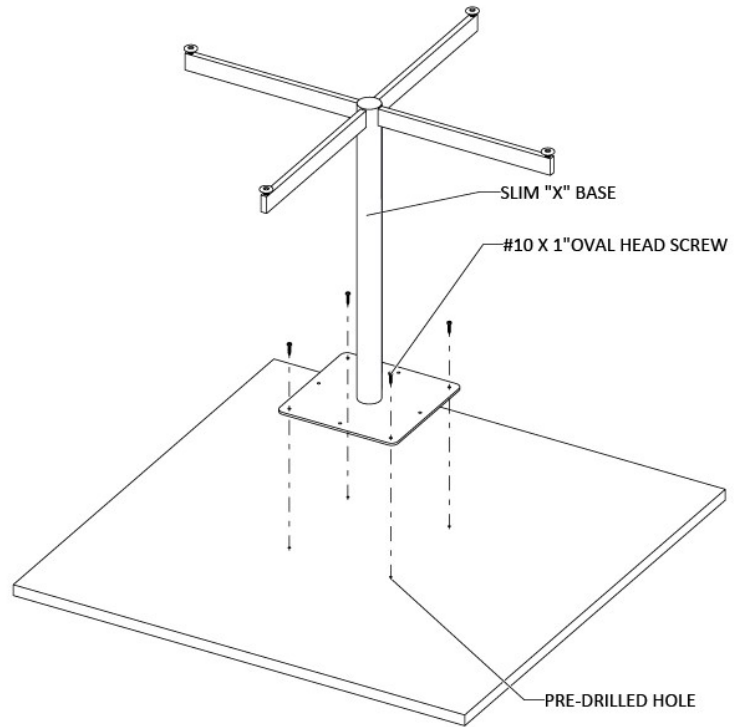

Figure 2
2. Position the slim "X" base using the pre-drilled positioning holes and attach it to square table top using #10 X 1" Oval Head Screws, (Figure 2).